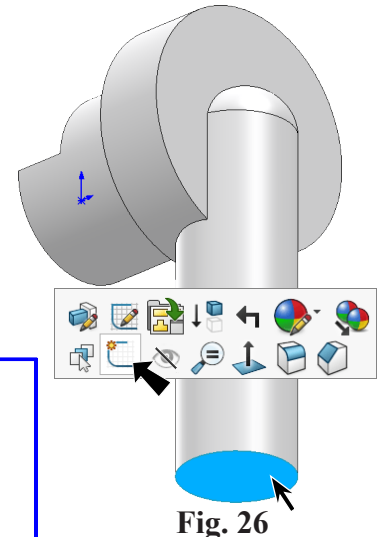

Fig. 26
Step 1. Rotate view up to **view bottom face of arm (Extrude1)**, use **Up Arrow** key  couple times, **Fig. 26.**
Step 2. Click **bottom face of arm (Extrude1)** and click **Sketch**  on the context toolbar, **Fig. 26.**